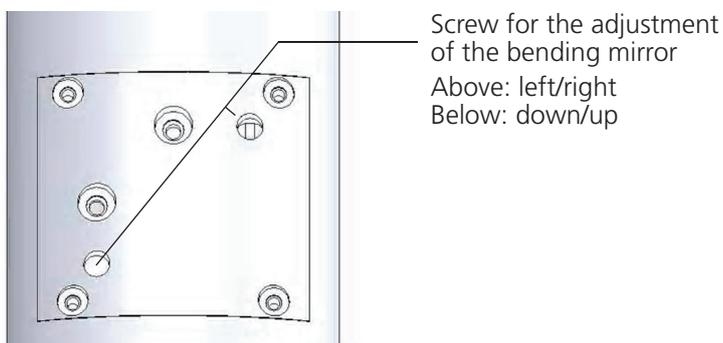

Fig. 21: Adjustment screws for the bending mirror
Using the directional mirror (see fig. 21) the laser beam can be easily brought into line with the reticule in the ocular of the microscope.
- By using the adjusting screws the bending mirror can be corrected (detail see in fig. 21) so that the arc spot is drawn into the reticule of the microscope.